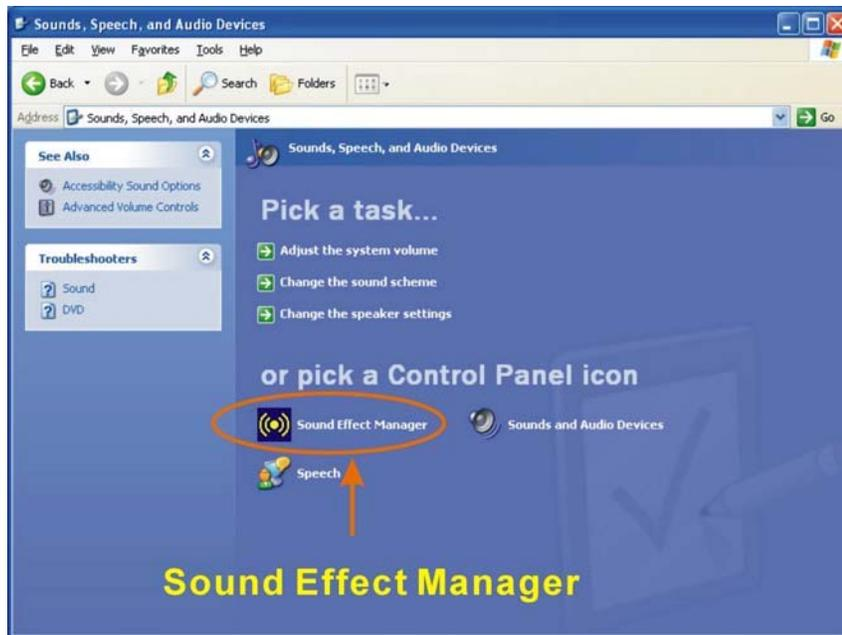

Figure 6-27: Sound Effect Manager Icon [Control Panel]
- f The Sound Effect Manager icon in the Control Panel (Figure 6-27).